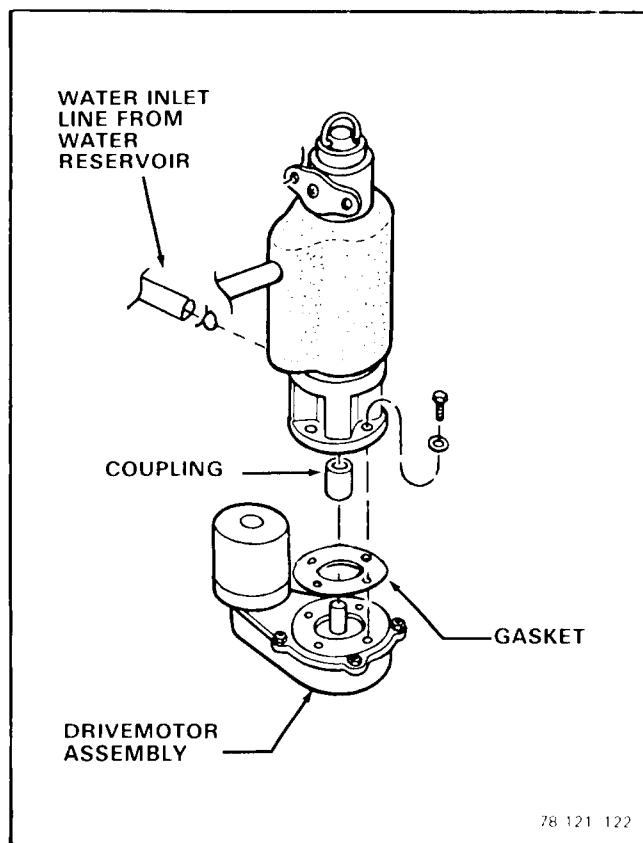

Figure 4-3. Removal of the Freezer Assembly.
A. To Remove the Freezer Assembly, see Figure 4-3: